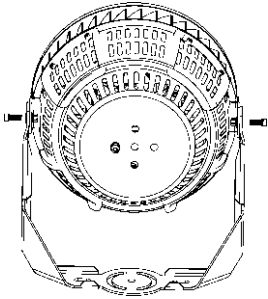

Figure 1
- Step 1: Fix the FM bracket to the heat sink with M10 screws (Figure 1);